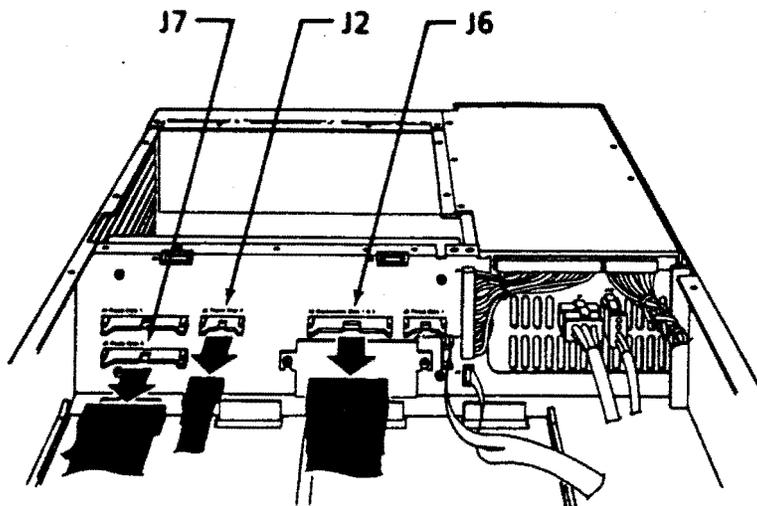

Figure 4-24: Drive Cable Backplane Connectors
11. Without disconnecting the cables from the drives, remove the disk drives, following the procedures described in subsection 4.2.2, steps 1 and 3, and subsection 4.2.4, steps 1 and 2. The drive cables are disconnected from the backplane (Figure 4-24):
6. Making sure that the connectors (Figure 4-24) are properly aligned, reconnect: